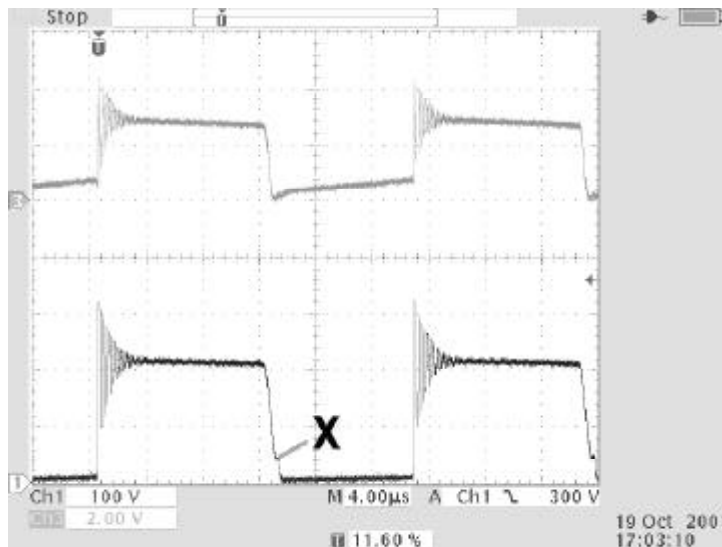

Fig 2) Drain (D) voltage of IRIS4013K (CH1) and FB voltage (CH3) 90VAC in Full load
Once the output capacitors C7 & C8 and the V_{cc} capacitor C9 are fully charged, the complete quasi-resonant signal can be passed through the mode switching circuit & delay circuit D4/Q1/R11/D6 to the feedback (FB) pin. This will happen only if the Bias winding voltage is above the switching threshold of the mode switching circuit (the operation of the mode switching circuit will be discussed in the next section). This will give a voltage above the V_{th2} threshold of the IRIS4013K, and this activates the quasi-resonant operation, holding the internal FET off until all the energy is transferred from the primary side of the transformer to the secondary and bias outputs. When all the energy is transferred, the quasi-resonant signal at the FB pin will start to fall until it can no longer supply the 1.35mA required by the IRIS4013K internal latch, and the FET is turned back on. This is also the lowest point of the resonant voltage at the drain pin of the IRIS4013K (shown as point X in fig2), so results in reduced switching losses.
Fig 2) shows the drain voltage of the IRIS4013K and the FB voltage with full load output at 90VAC input. Note that point X marked on the drain waveform shows the detection point for the quasi-resonant signal which is the lowest point on the drain waveform after the energy is transferred.